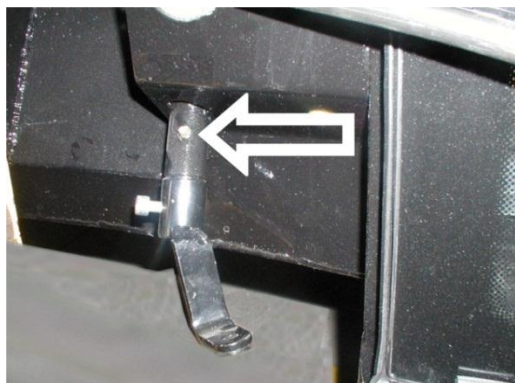

Fig. 5.8.3. Reverse pivot sleeves grease point.
- reverse pivot sleeves (Fig. 5.8.3) – upper sleeve is accessible after opened tractor bonnet and lower sleeve is accessible after removed steering column LHS cover